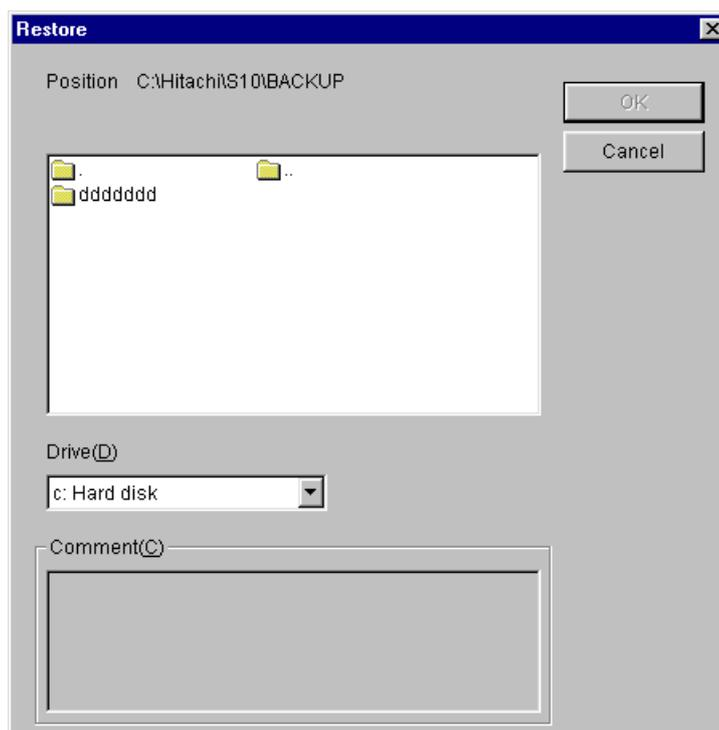
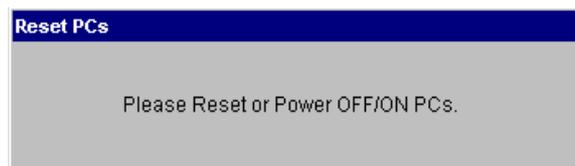

Figure 3-8 [Restore] Window (File Selection)
Figure 3-10 [Reset PCs] Dialog Box
- (3) When restore is started, the message dialog box “Please Reset or Power OFF/ON PCs.” (Figure 3-10) is displayed. Reset or power off/on the PCs according to the message.
- (5) When the memory clear process is completed, you can click the button on the [Restore] window (memory clear progress status) to finish the process. If the button is clicked during the memory clear process, the process is aborted halfway (i.e., the memory is cleared partially) and the [Restore] window (memory clear progress status) disappears, returning to the [Restore] window (file selection).
- (6) Upon completion of the memory clear process, the message displayed in Step (3) (Figure 3-10) appears. Reset or power off or on the PCs according to the message. When the window shown in Figure 3-10 disappears, the [BACKUP RESTORE SYSTEM] window (keep coil and counter value information recovery confirmation) is displayed. This window is also displayed when “Not clear” is selected in Step (4).
If the **Cancel** button is clicked during the restore process, the [Restore] window (restore progress status) disappears, returning to the [Restore] window (file selection) (Figure 3-8). In this case, the restore process is completed halfway and system operations in this status will lead to a malfunction. Retry restore from the beginning. Upon completion of the restore process, the message dialog “Please Reset or Power OFF/ON PCs.” (Figure 3-10) is displayed. If the restore destination is S10mini and the target module is RS-232C, however, the message changes to the message “Reset PCs.”. According to this message, reset the PCs. If the PCs is powered off and then back on again, the LGB table information for RS-232C is not reflected in the system.